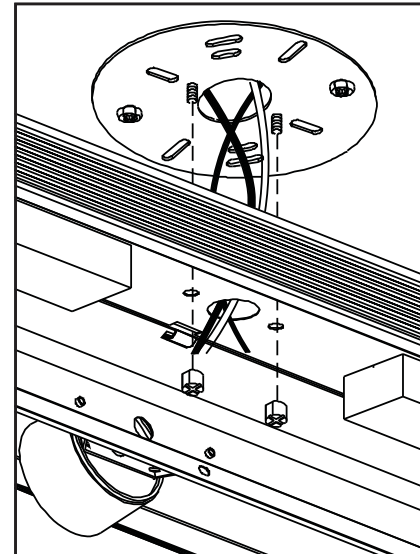

Figure 2
- 5) Lift fixture to ceiling and insert power leads through open hole. Position housing over the two screws (10) on Mounting Plate (12) and secure with finials (8). See Fig 2.